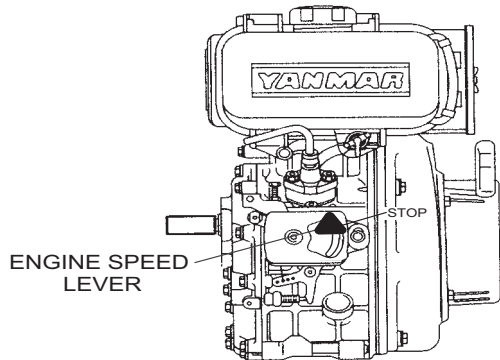

Figure 11. Engine Speed Lever (STOP Position)
2. After the engine cools, move the engine speed lever to the **STOP** position (Figure 11).